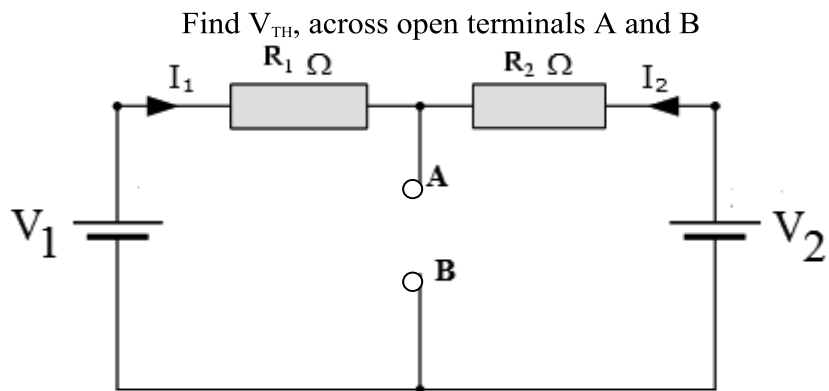

Figure 2
5. Switch ON both voltage sources V₁ and V₂ and note down the voltage across the open terminals A and B (i.e. V_{TH}). As shown in figure 2.